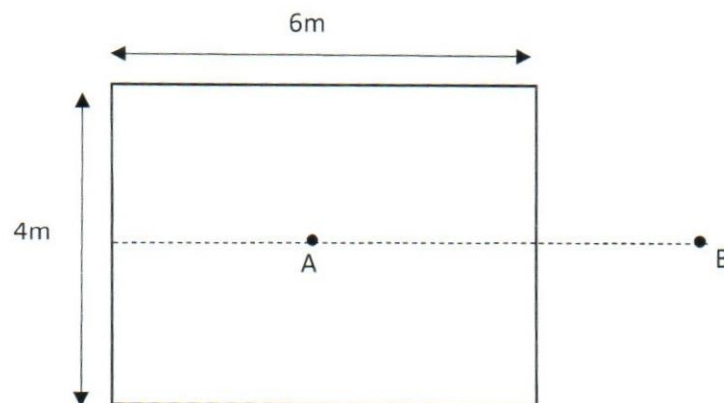

Figure 3
- b) A rectangular foundation exerts a uniform pressure of 200kPa on a soil as shown in the figure 3. Point A is located at the center of the foundation and point B is located in an axis of symmetry, 5m away from point A. Find the vertical stress increments at points A & B at a depth of 6m below the foundation (45marks)